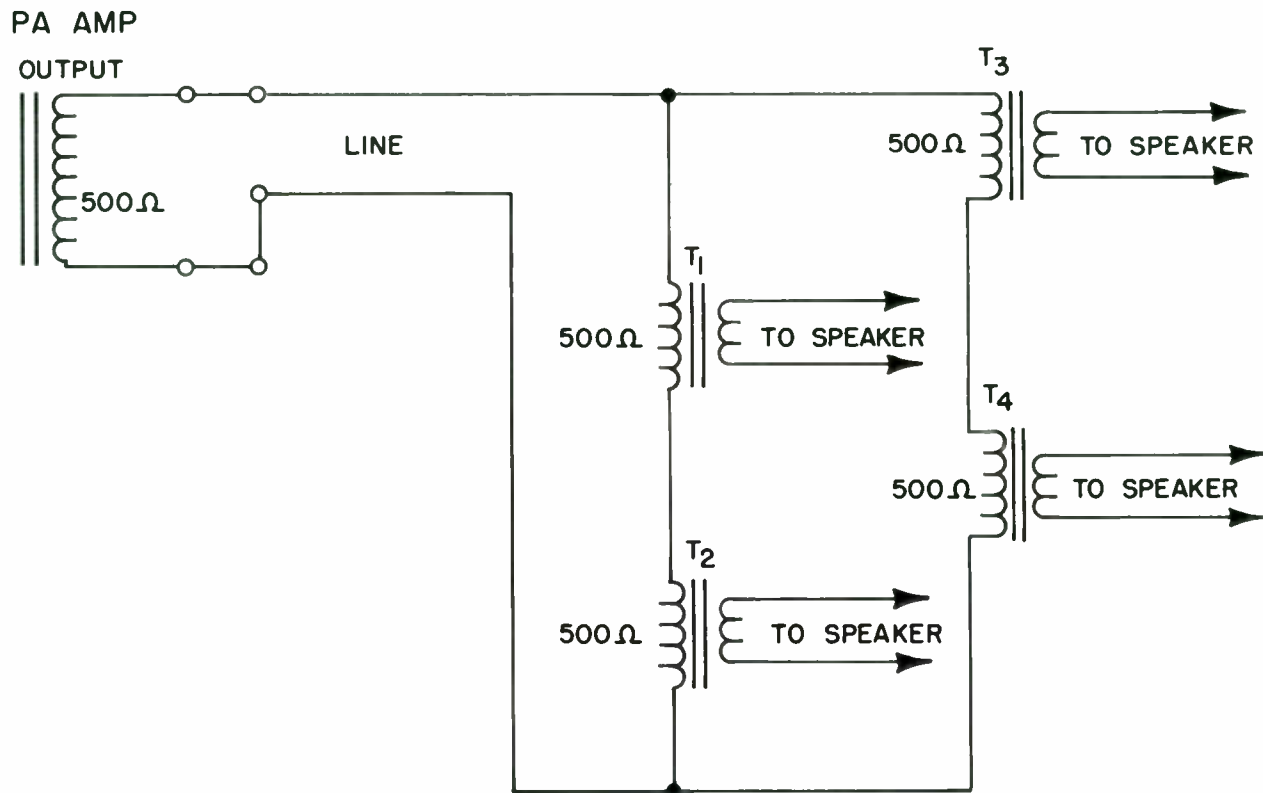

Figure 13 - A 500Ω line with line matching speaker transformers.
Popular output impedances of amplifiers are 4 ohms, 8 ohms, and 16 ohms. Other values provided from public address (PA) amplifiers to drive multi-speaker systems are: 125 ohms, 250 ohms, and, more frequently, 500 ohms. The higher impedance outputs usually supply a line from which speakers are supplied through an individual matching transformer at each speaker. Figure 13 shows a 500 ohm line with a series-parallel arrangement of line matching speaker transformers.